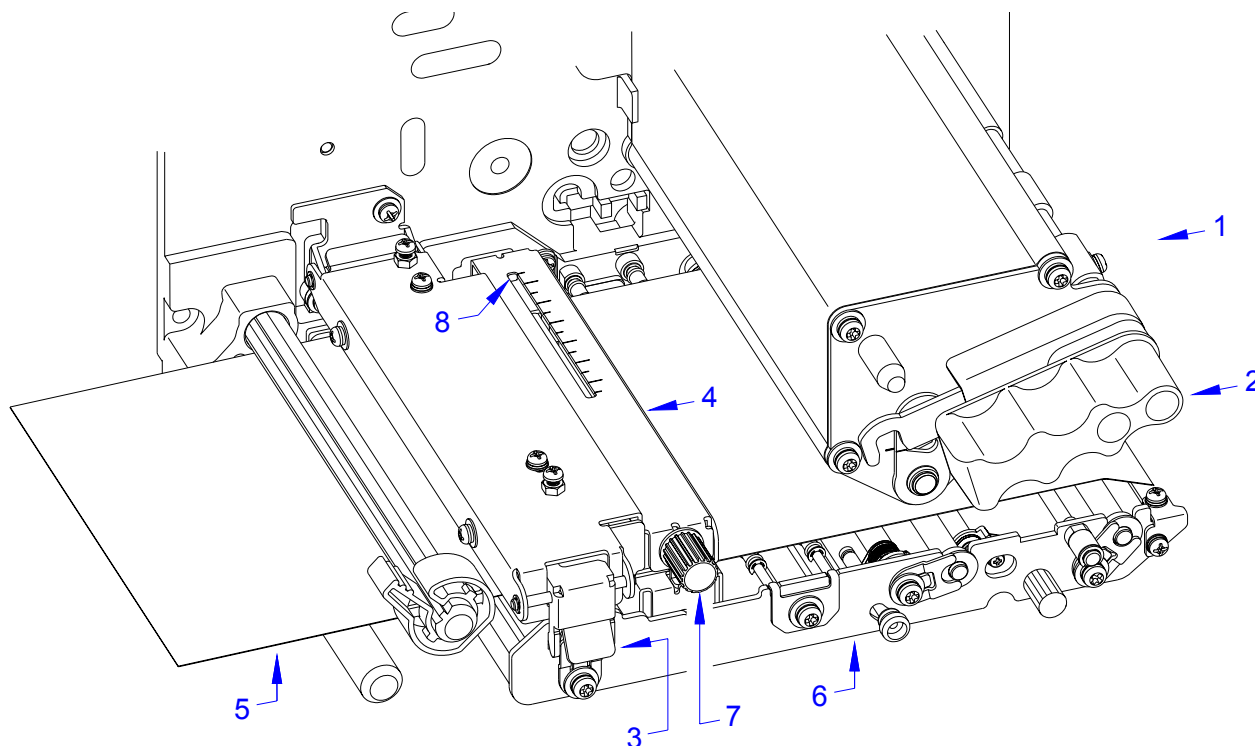

Figure 6-5, Label Sensor Positioning
- 1 Open the front housing cover or remove the ribbon cassette to access print assembly (1, Figure 6-5).
- 2 Lift upward on print head latch (2) to disengage the print head as required.
- 3 Lift upward on label sensor latch (3) to hinge open the upper half of label sensor assembly (4).
- 4 Place label media (5) face-up and laterally onto printer chassis (6). Relatch label sensor assembly (4).
- 5 Find label sensor adjustment knob (7) located behind print assembly (1).